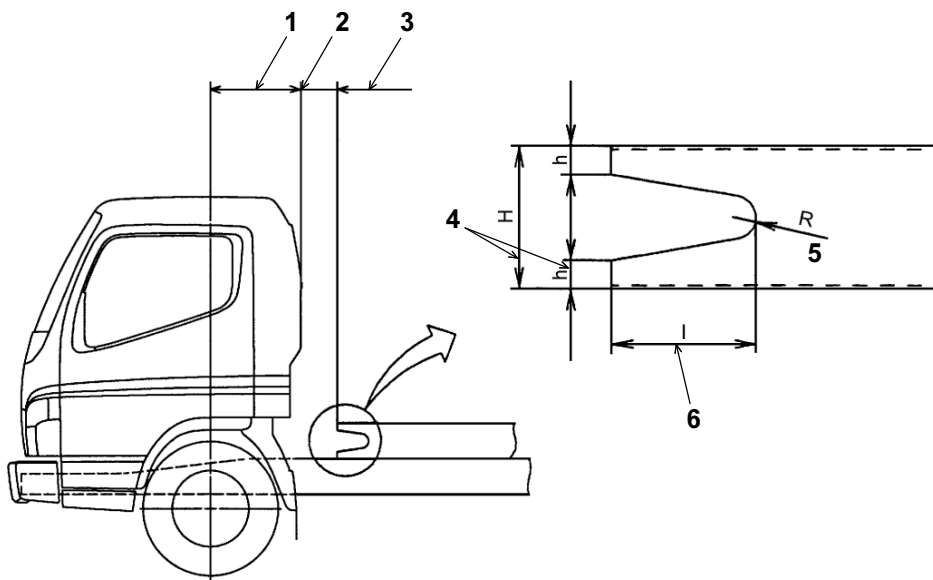
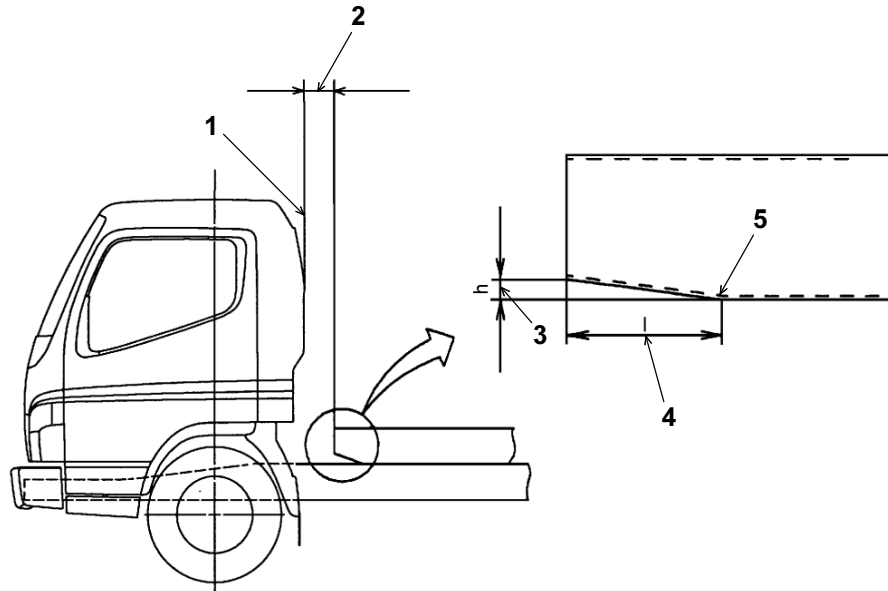

Fig. 3
Fig. 4
- (c) If it is difficult to shape the front end of the mounting frame as described in Fig. 2 and Fig. 3, cut it to the shape as shown in Fig. 4 before installation.